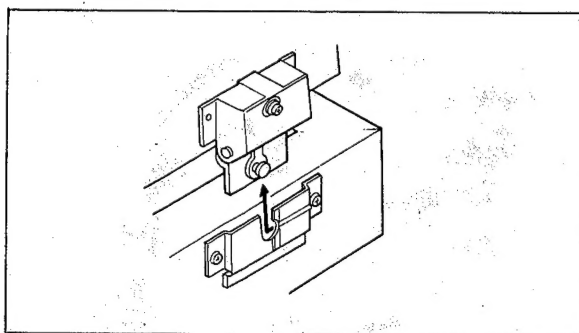

Fig. 2-1. Top cover removal
1. Open the top cover, and then push the upper hinge toward the left to release the lock as shown in Fig. 2-1.